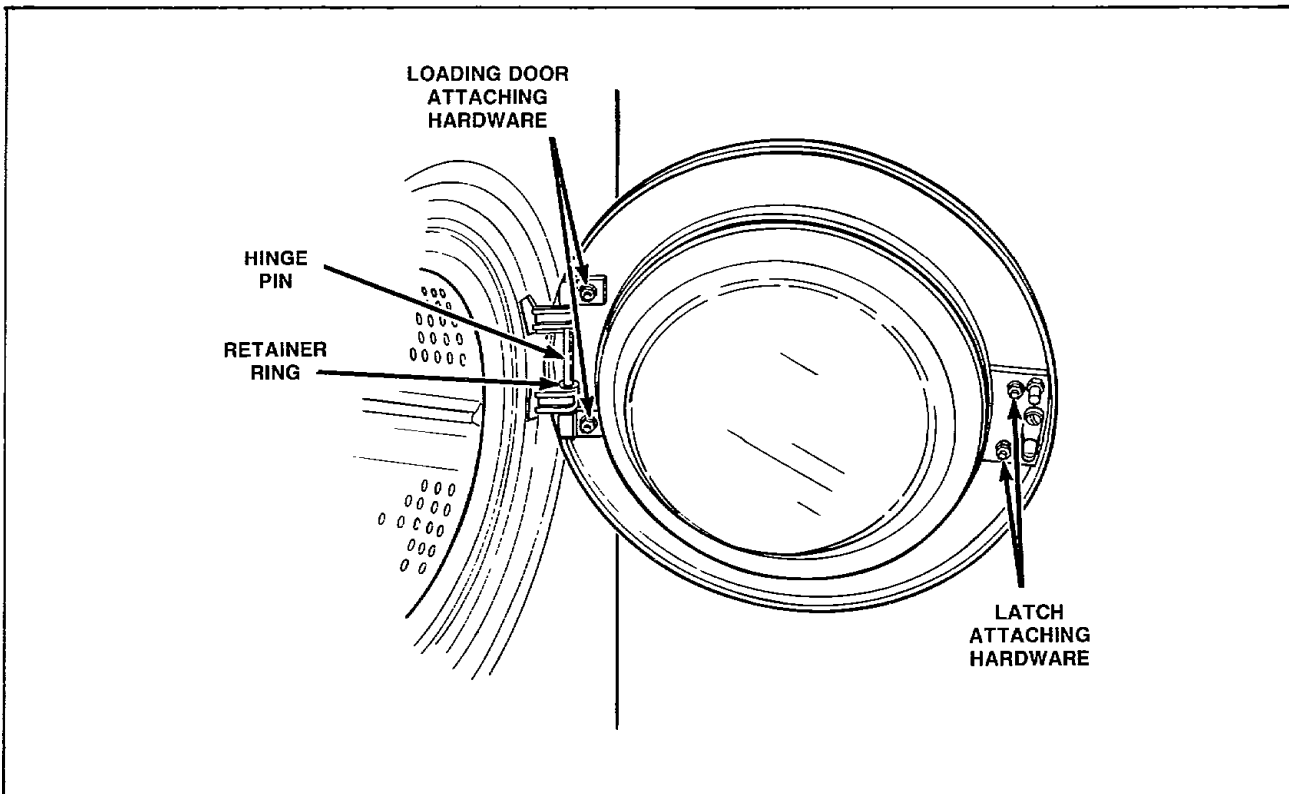

Figure 3
- c. Remove two nuts, lockwashers and screws holding the loading door to the hinge blocks, *Figure 3*.
- d. Remove the retainer ring holding the hinge pin in the hinge and remove pin, *Figure 3*.
- c. Remove nuts, lockwashers and screws holding the latch, support and pin to loading door, *Figure 3*.